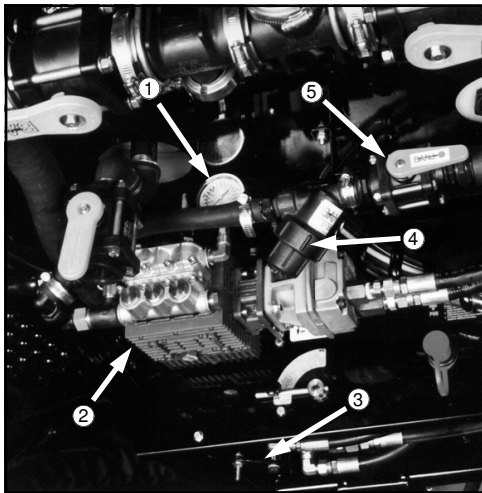

FIG 5.57
OPERATING – To operate the pressure washing system, leave the engine running between 1000 and 1200 RPM. Turn the parking brake on (see page 30). The rinse supply valve for the pressure washer (fig. 5.57, item 5) may remain open unless operating the solution tank rinse system, then you should close it as you open the rinse tank valve (see page 54). Activate the pressure washing pump (fig. 5.57, item 2) with valve handle in hydraulic sight gauge window (fig 5.58). The pressure washer “ON/OFF” handle has only approximately one half inch of travel.
In event of emergency, pump may be turned off from underneath the machine by pushing upward on the hydraulic flow divider shaft (fig. 5.57, item 3).
The spray wand is located between the foam tank and the rinse tank (fig. 5.59). Spray pressure is indicated by the gauge mounted above the pressure pump (fig. 5.57, item 1).
MAINTENANCE – Remove and inspect in-line filter (fig. 5.57, item 4) occasionally and clean it as required.